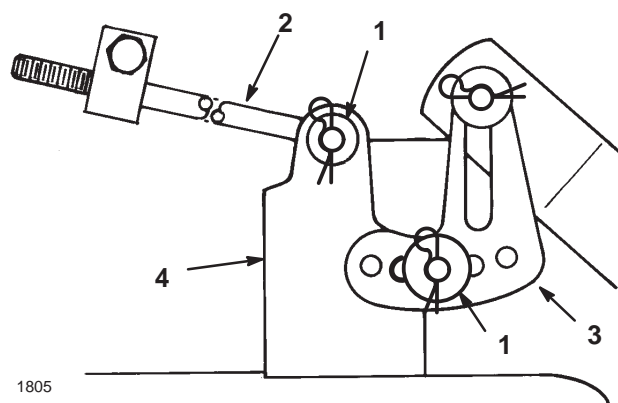

Figure 40
7. Remove the hairpin cotter and washer from the end of the long rod (Fig. 40). Slide the rod out of the mower mount.
8. Remove the hairpin cotter and washer at the mower leveling bracket (Fig. 40). Slide the bracket off of the mounting pin. Install the washer and hairpin cotter for storage.